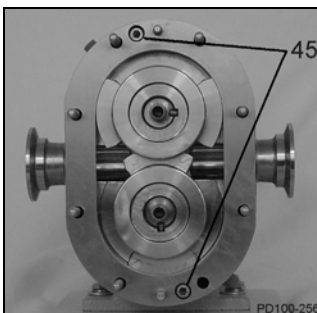

Figure 35 - Location of Cap Screws
1. Remove the two body retaining cap screws (Figure 35, item 45).